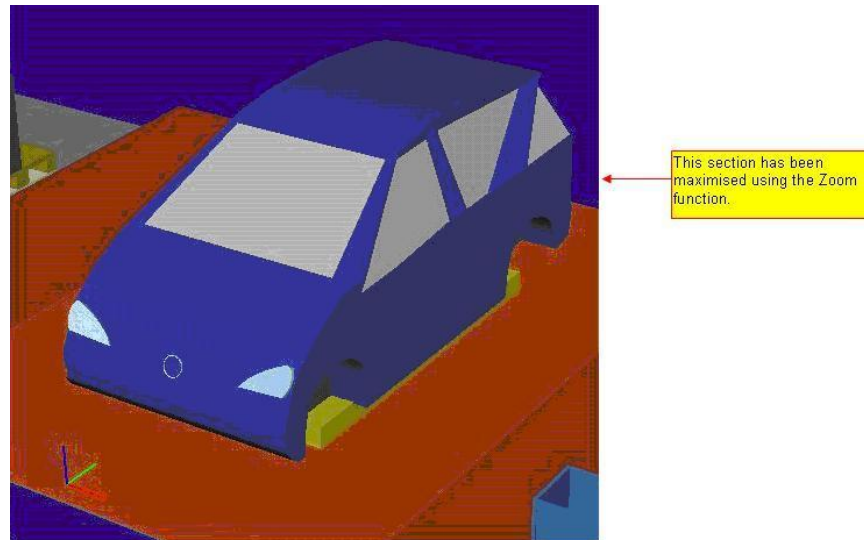

Figure 6: Maximized Section
- 3) Sections can be maximized or minimized step by step using the keyboard; the magnifying-glass-function does not have to be enabled. You can minimize sections by typing **Z**; you can maximize sections holding down the shift key. *Please refer to the Figure 6.*